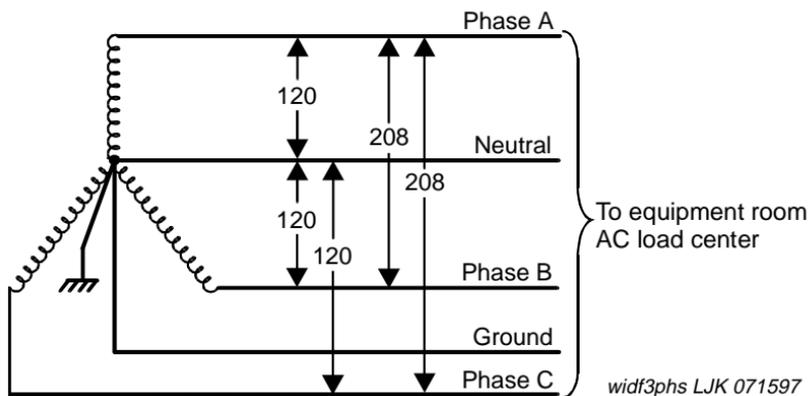

Figure 18. Single-Phase, 4-Wire, 120/208 VAC, 60 Hz Source
- Three-phase, 4-wire, 120/208 VAC supplying 208 VAC. See Figure 18. This source has 2 hot wires and 1 ground wire.